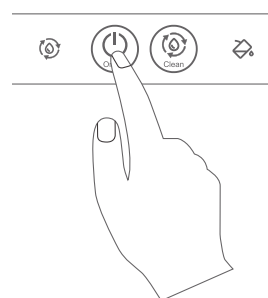

Figure 8
4. Press the  button,  indicator lights up, indicating that the machine will begin the ice-making process. (See Figure 8).